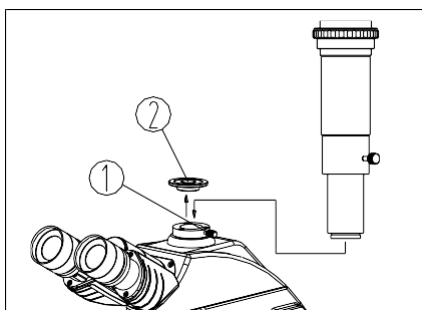
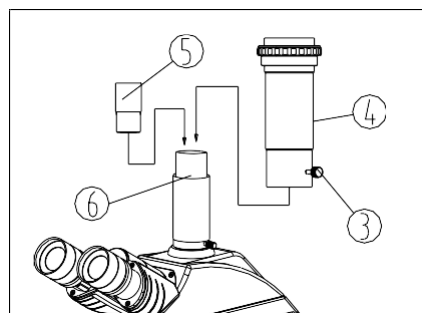

Fig. 34
Fig. 35
(1) Loosen the lock screw① of trinocular head, take out the triplet dust-cover②(see Fig.34).
(2) Insert the photography device into the trinocular head as shown in the figure, and screw down the lock screw①.
(3) Loosen the lock-screw③ of the photography adapter and take down the photography adapter ④ (See Fig. 35).
(4) Insert the 3.2X photography eyepiece⑤ into the eyepiece base⑥, then install the photography adapter④ and tighten the lock-screw③.
(5) After the image is clear through observation, then operate the photography device according to its instructions.